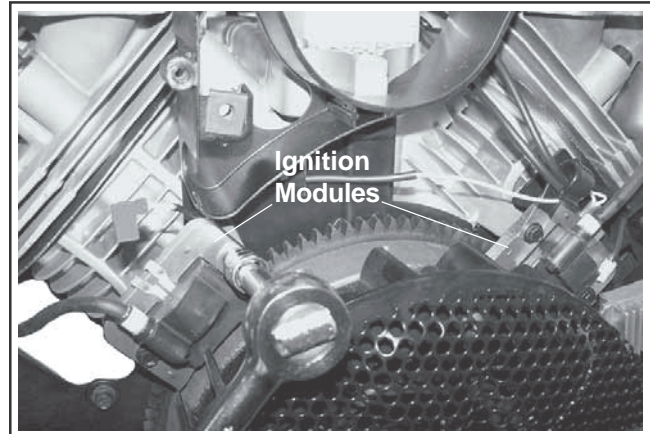

Figure 8-26. Removing Ignition Modules.
2. Remove the mounting screws and disconnect the kill lead from the ignition modules. Note the position of ignition modules. See Figure 8-26.